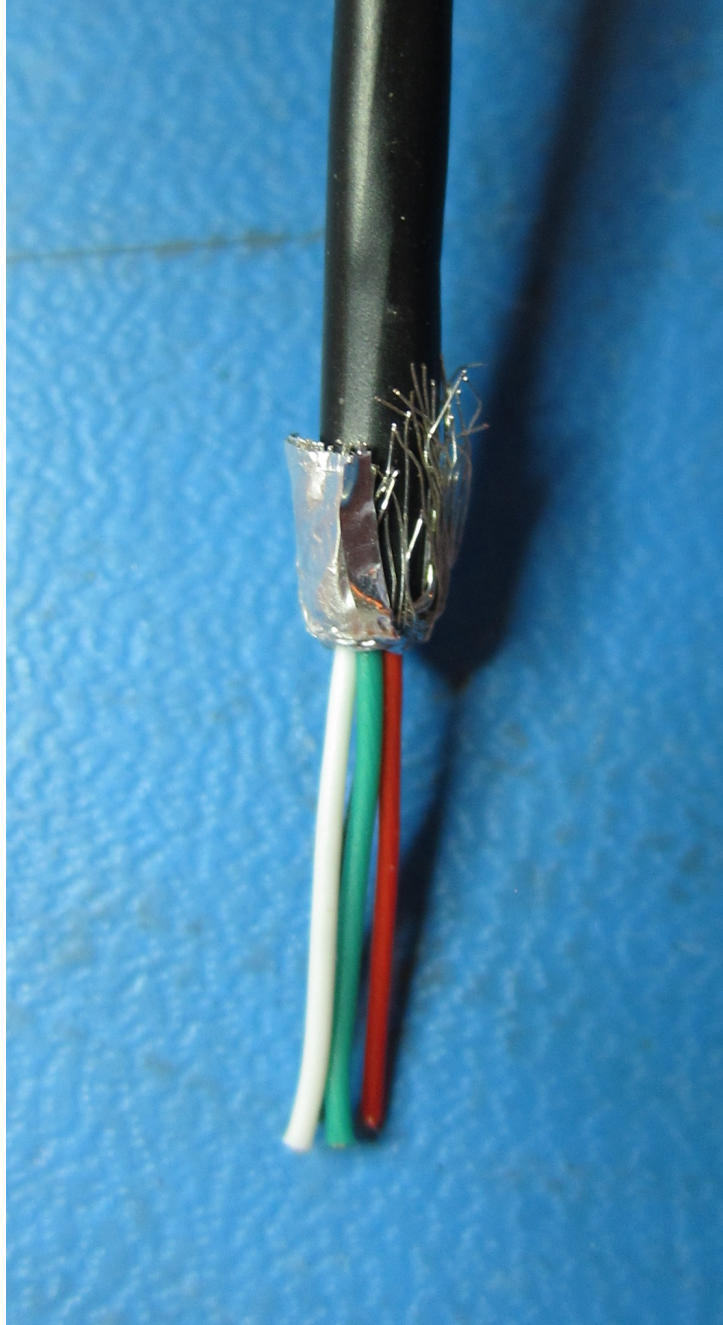

Figure 14: The shield and the foil folded back over the cable jacket.
11. Fold the shield and the foil over the jacket, see Figure 14.